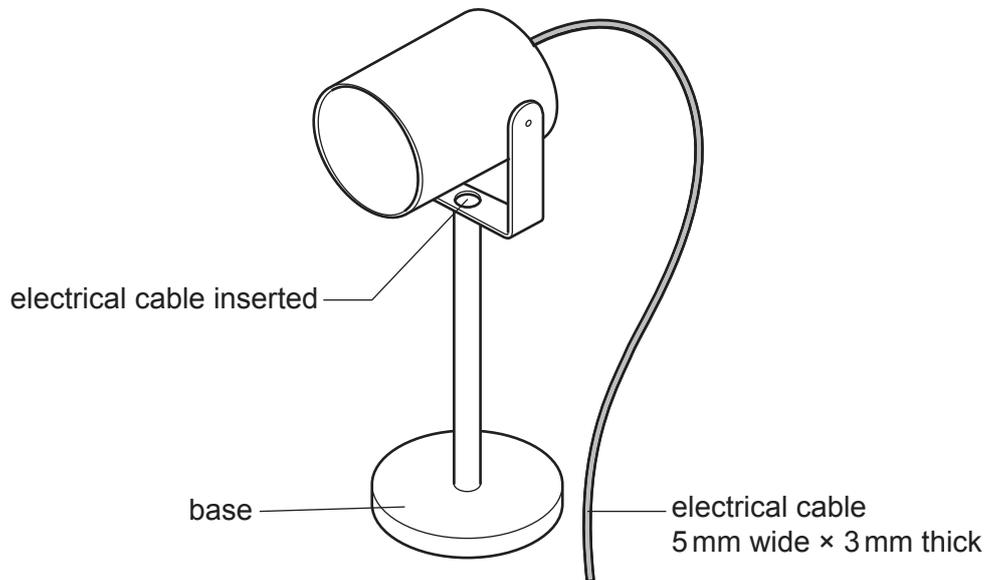

Fig. 13.6
- (g) Fig. 13.6 shows the adjustable table lamp and part of the electrical cable. The electrical cable will be inserted into the top of the stem and then emerge through or under the base.